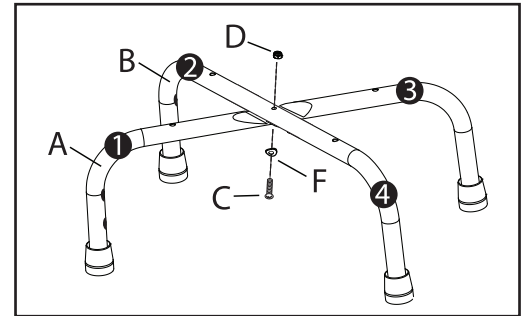

Fig. 1
1. In the upright position, crisscross and overlap the Leg Assemblies (A) and (B) so the flattened areas of the tubing are flush at the center. The Leg Assembly (B) labeled (2) and (4) should be on top. **IMPORTANT:** Be sure the leg ends labeled (1) and (2) are positioned on the left while facing, as shown in Fig. 1. These leg ends have holes for mounting the handrail.
Next, Insert the 1-3/8" Base Screw (C) through a Washer (F) and place through both Leg Assemblies from underneath, and secure with a Nylon Insert Lock Nut (D) as shown in Fig. 1. Using a Phillips head screwdriver, tighten the screw by turning clockwise with the supplied wrench secured on the lock nut. **DO NOT OVER TIGHTEN AS IT COULD STRIP THE THREADS.**